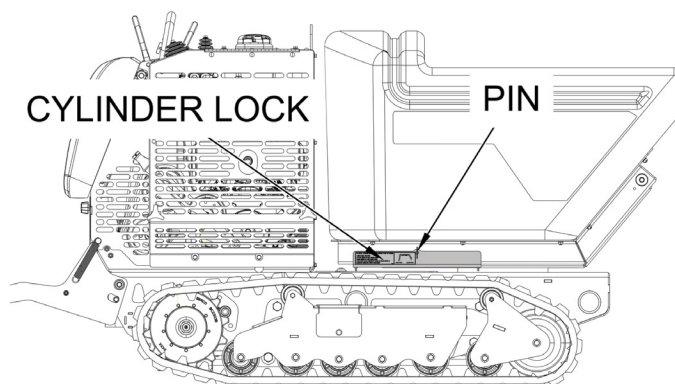

Figure 6-2. Cylinder Lock Location
4. Remove the pin securing the cylinder lock to the storage location. See Figure 6-2.